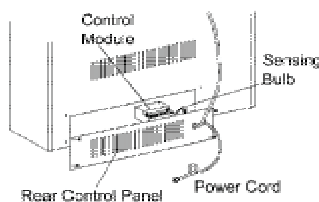

Figure 19- Control Model
2. Remove two screws and hex nuts, take out the control module. When installing, reverse the steps above. (See Figure 19 and Figure 22)